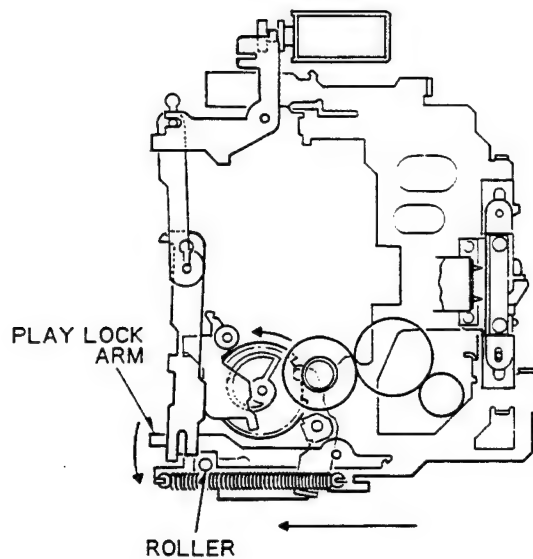

Fig. 16
- (2) Fig. 16 shows the state at end of heading operation.